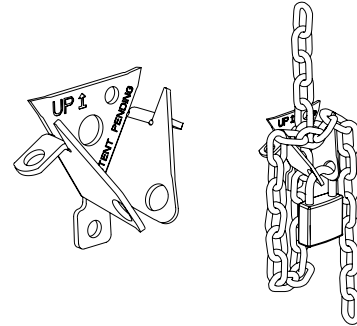

Fig 19
- 5) Loop chain around keeper as shown. Fig. 19. Optional Padlock not provided.